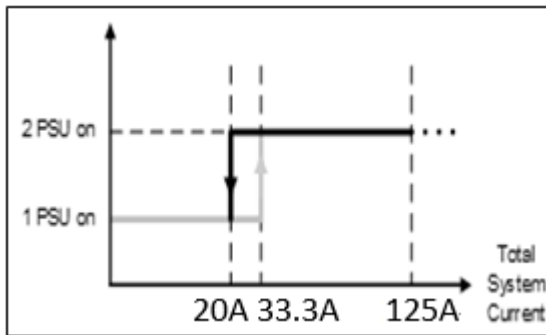

Figure 11. Hot-standby enable/disable current thresholds
*Figure 11* shows the achievable power loss savings when using the hot-standby mode operation. A total power loss reduction of 6 W is achievable.